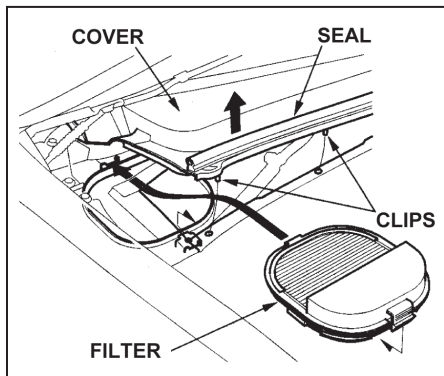

Fig. 1
2. Carefully remove clips securing the hood seal. Then reposition the hood seal to allow access to the cowl cover. (See Fig. 1)